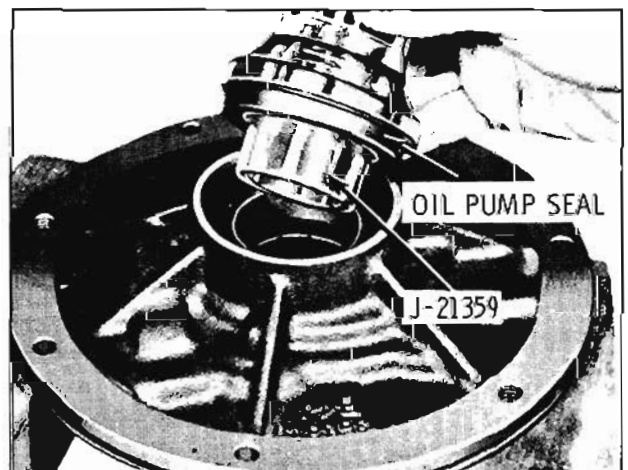

Fig. 6-339 Install Oil Seal
- Using Installer J-21359, tap in new oil seal. (Fig. 6-339)